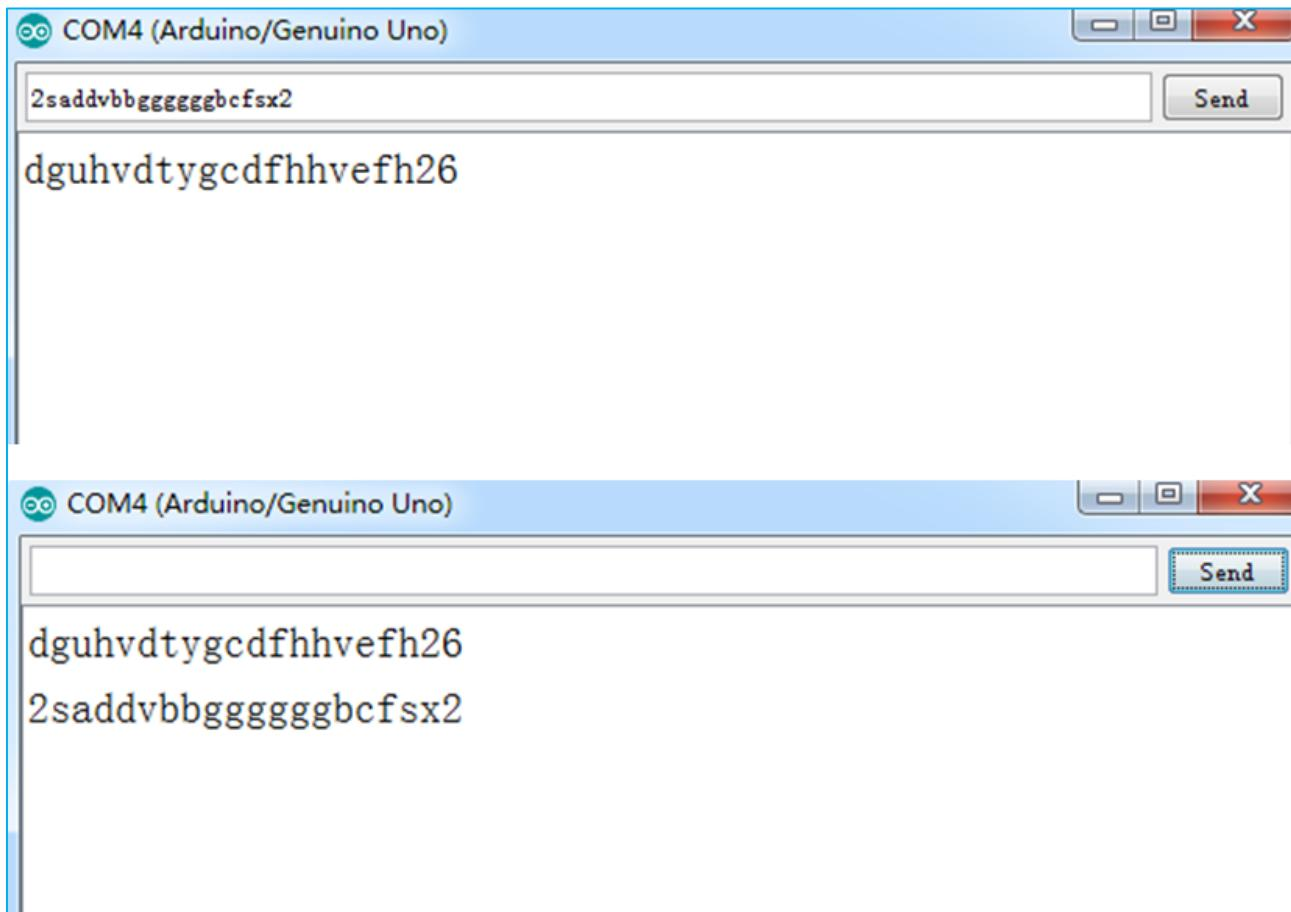

Figure 3.2.48 Schematic Diagram of Serial Port Transmission
6、As shown in Figure 3.2.48, we can input what we want to send on the serial monitor. After we finish, click “Send” to send the data to the mobile phone app via Bluetooth, as shown in Figure 3.2.49.
If the transmitted data is "AA 01 01 05 00 5B 00 62 55", it means that the car is moving forward (05 is the direction control instruction, and the 005B means 91 when converted to binary number. By the Figure.3.2.48 we can know that 91 degree means the car is moving forward).